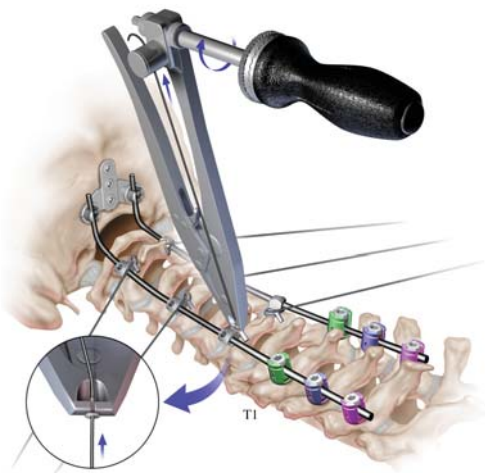

Figure 21a
- Adjust the Torque Wrench to the desired tension level and key into the hex of the Crimper-Tensioner Device. Turn the Torque Wrench **clockwise** until the wrench slips, indicating desired tension has been achieved (Figure 21a). Gently squeeze handles of Crimper-Tensioner Device until the ratchet releases indicating the crimp is fully swaged.